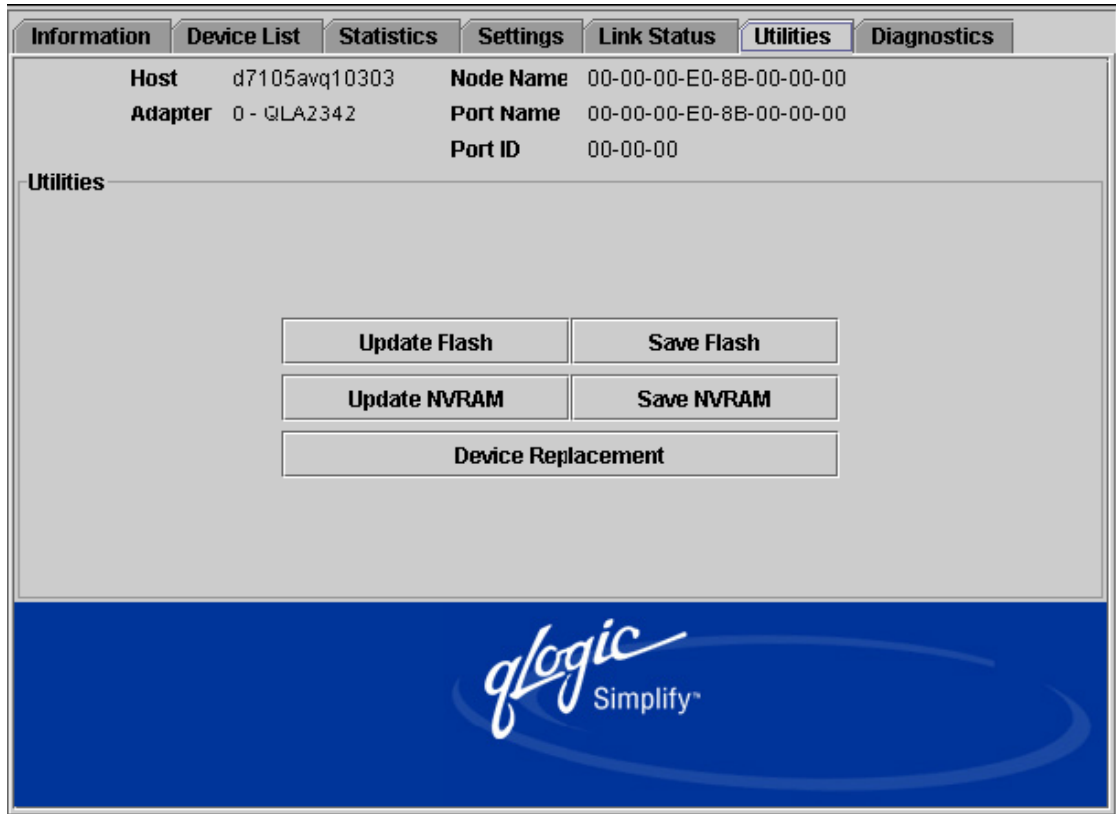

Figure 63 Utilities tabbed page
2. Click the **Utilities** tab. The Utilities page displays (see Figure 63 on page 101).